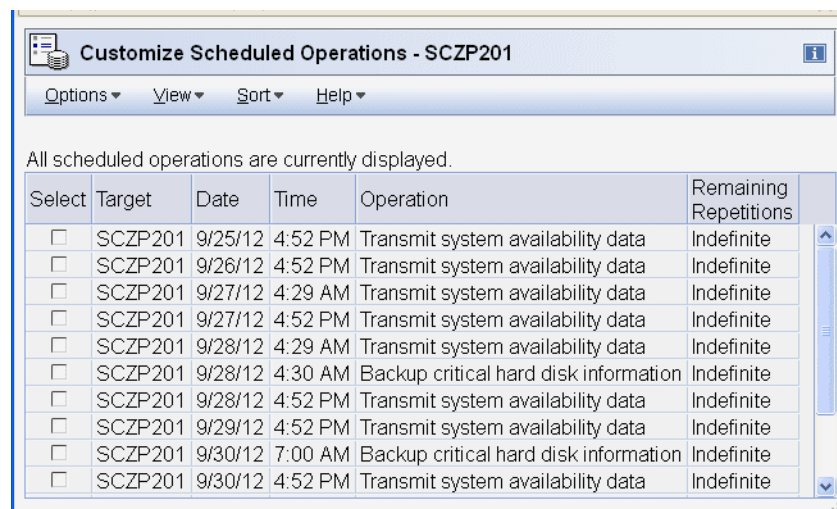

Figure 1-71 Customize Scheduled Operations - access external time source removed
- The final Customize Scheduled Operations panel confirms: there are no more access external time source scheduled operations to be executed (Figure 1-71).